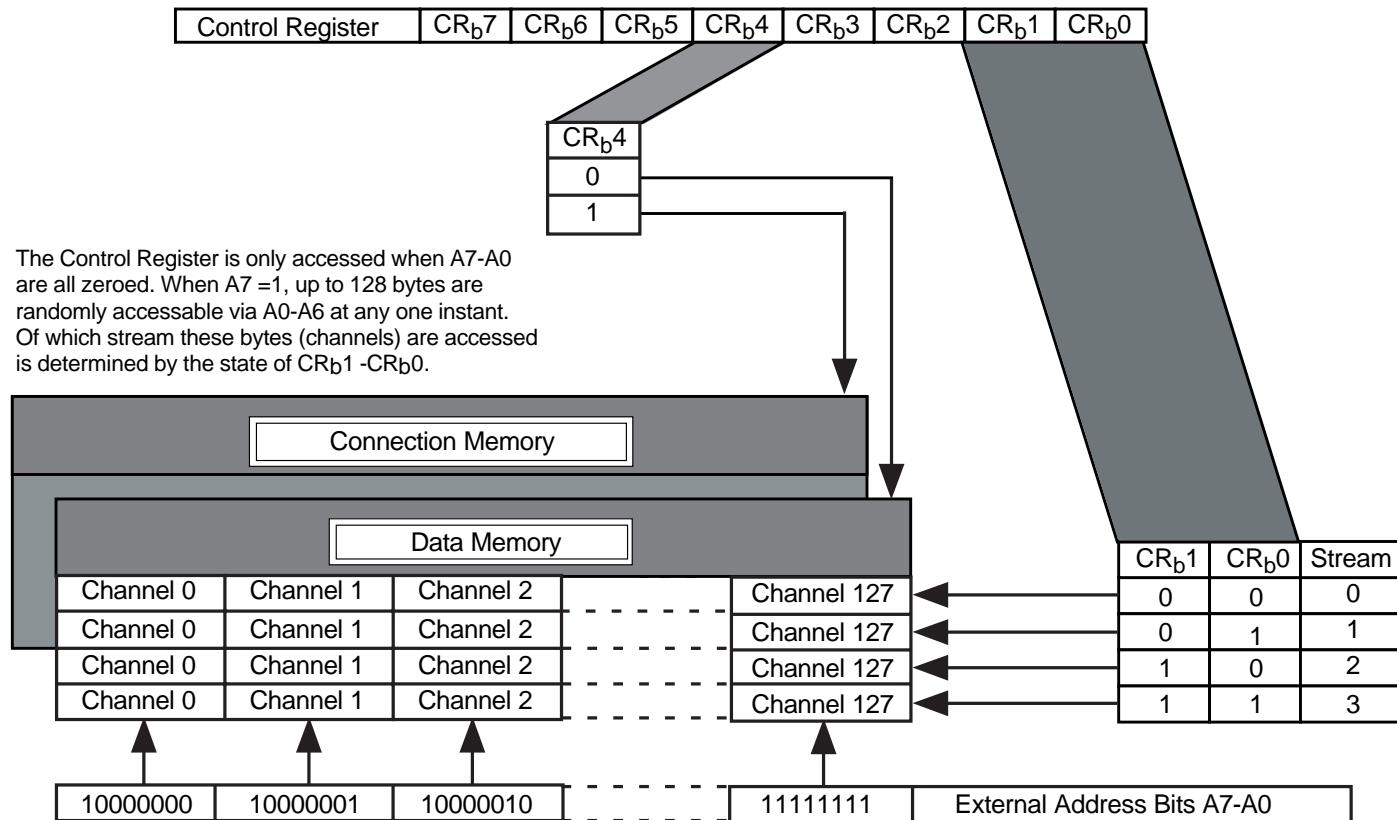

Figure 3. Addressing Internal Memories
If the A7 address input is low, then A6 through A0 are used to address the interface mode selection (IMS), control (CR), frame alignment (FAR) and frame input offset (FOR) registers (Table 4). If the A7 is high, then A6 through A0 are used to select 128 locations corresponding to data rate of the ST-BUS®. The address input lines and the stream address bits (STA) of the control register allow access to the entire data and connection memories. The control and IMS registers together control all the major functions of the device, see Figure 3.